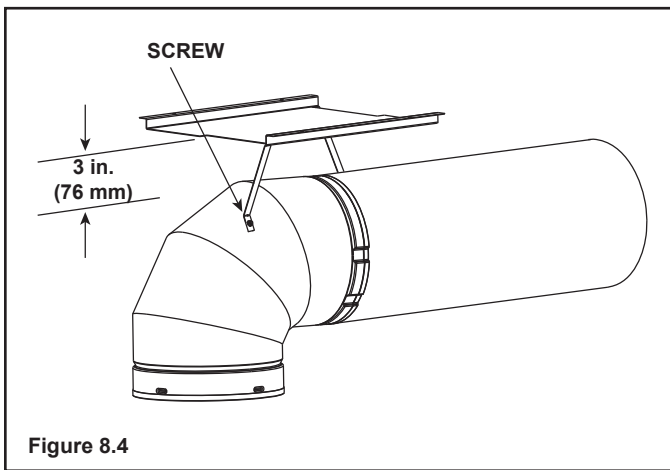

Figure 8.4
- If the combustable materials are not in place at the time of install the elbow heat shield may be screwed to the exhaust pipe (see Figure 8.4). Cut the tabs as shown and bend down. Secure the heat shield to the pipe maintaining 3 inch to 4 inch between the pipe and shield.